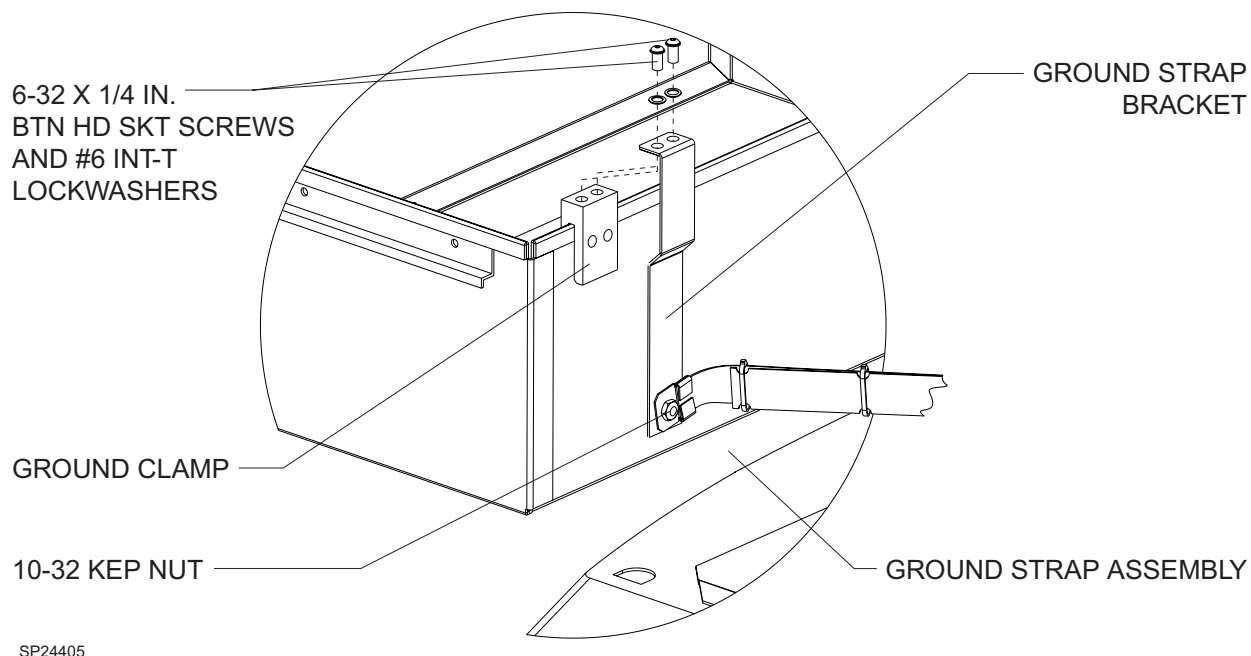

FIGURE 5. Ground Strap and Bracket Installation
- 2.9 Attach the other end of the ground strap assembly to the ground strap bracket as shown in Figure 5. Secure it with a 10-32 Kep nut.
- 2.10 Pull the drawer tracks out. While holding the drawer in position, attach the ground strap bracket (4117791) to the ground clamp with two 6-32 x 1/4 in. btn hd skt screws and #6 int-t lock washers. See Figure 5.